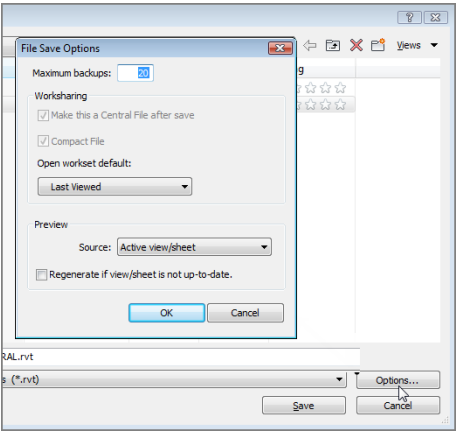

FIGURE 22.6: Modifying the settings before you save the file
3. In the File Save Options dialog, change Maximum Backups to 1 (see Figure 22.6).